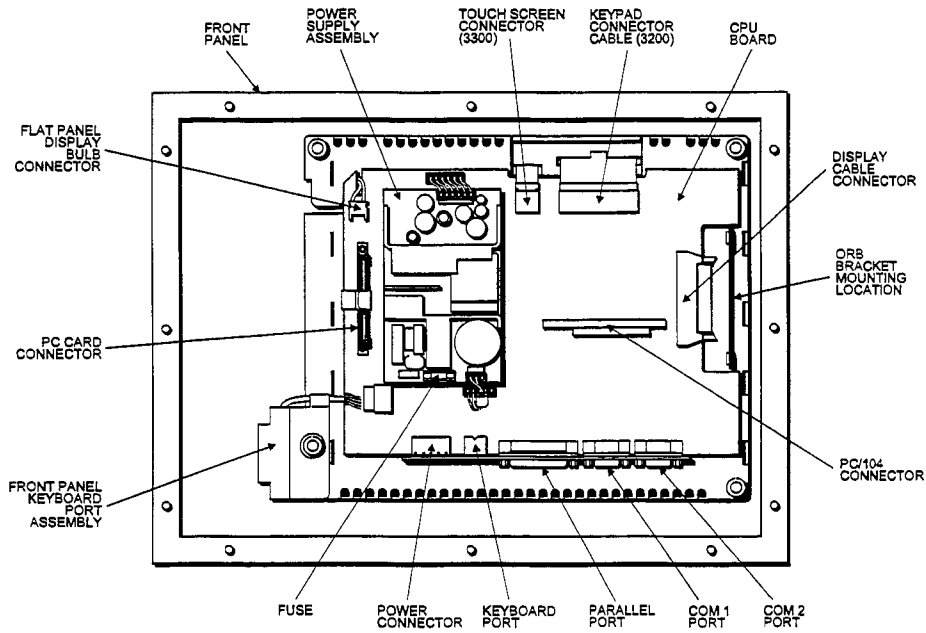

Figure 3-2. Internal System Components
4. The PC/104 connectors are to the right of the power supply (see Figure 3-2 for location). The contents of the expansion kit should be used to attach one or two PC/104 cards.
4. Place the ORB in ORB mounting area (Figure 3-2)
4. Plug the adapter card into the PC/104 connectors on the CPU. Make sure that the pins are properly aligned and insert into the PC/104 connectors (Figure 3-2).